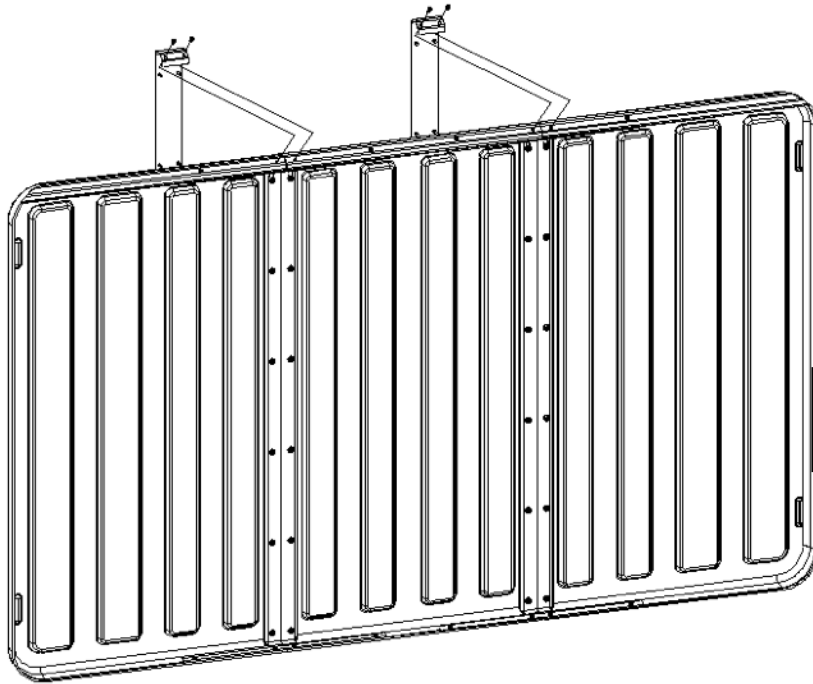

Figure 6
Connect the top of the Middle Connecting Plate to the Storm Shell Front using two (2) S2 bolts. Secure the Middle Connecting Plate to the Storm Shell Back using twelve (12) N2 Flange Nuts. See Figure 6 and Figure 7.